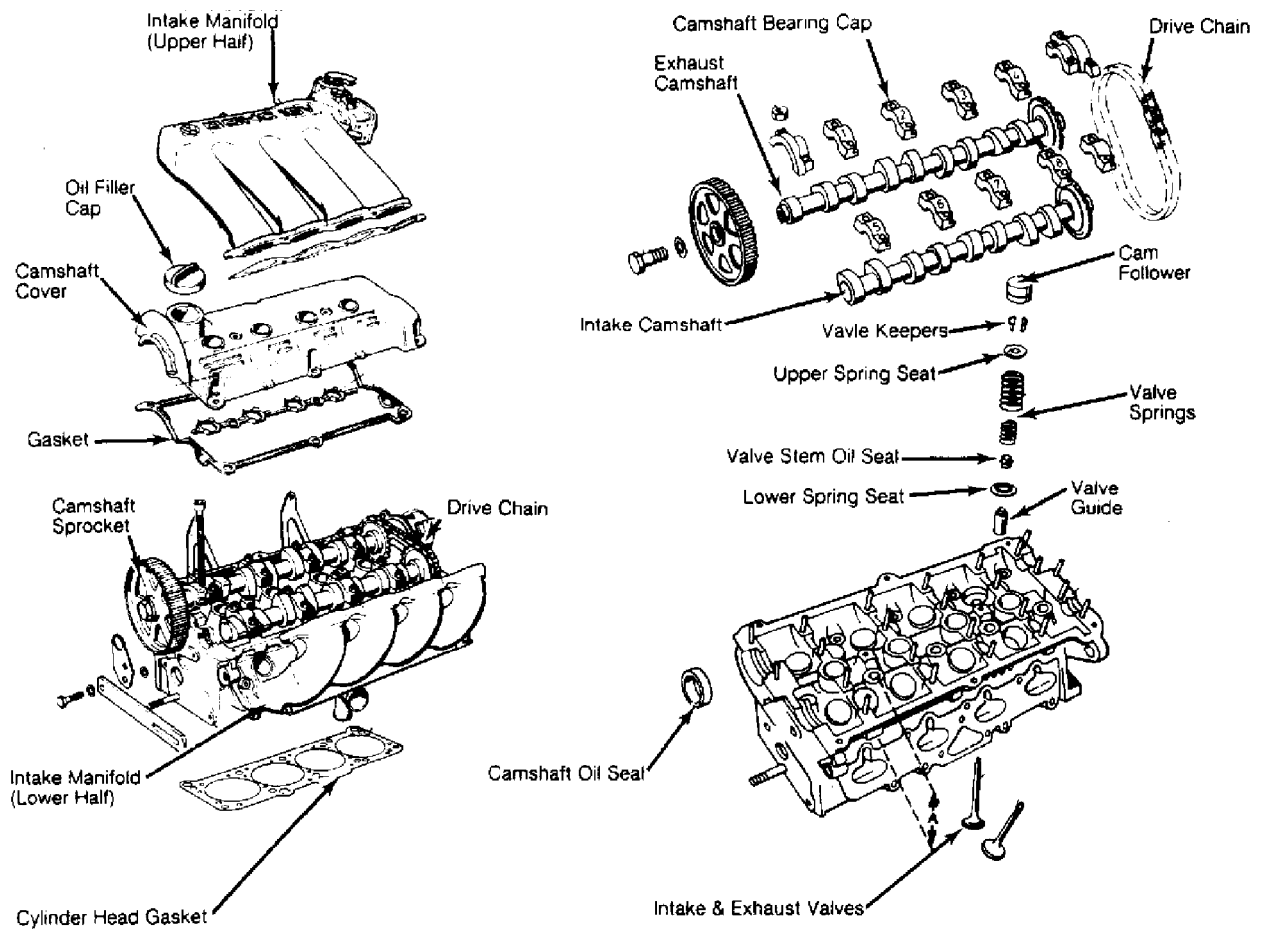

Fig. 3: Identifying 2.0L Cylinder Head (16-Valve)
To determine weak or noisy lifter, position camshaft lobe high point upward. Using a piece of wood, push cam follower down. See Fig. 3 or 4. If cam follower moves down more than .004" (.10 mm), replace cam follower. If cam follower moves less than .004" (.10 mm), cam follower is okay. Repeat procedure for remaining cam followers.
1) Removal and installation procedure is not available from manufacturer. Cylinder head may be removed with engine in vehicle. Match mark all components for installation reference. Remove timing belt. See TIMING BELT under REMOVAL & INSTALLATION. See Fig. 3 or 4.